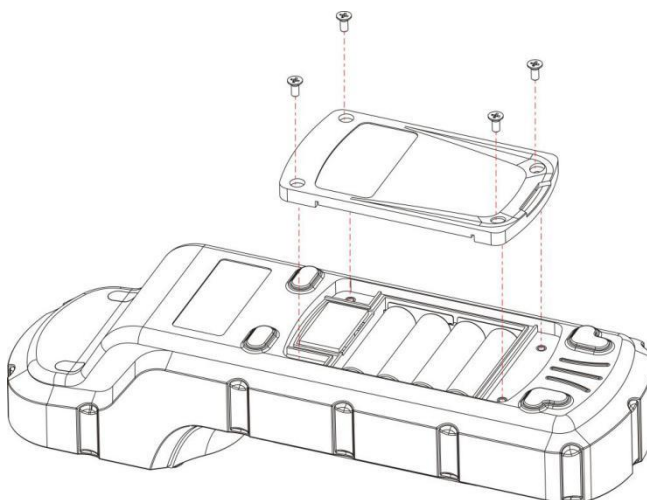

Figure 3 Replace Batteries
The SP-800 battery compartment, shown in Figure 3, is on the back side of the instrument. Insert a small pad underneath the screen area to make the back-surface level when the instrument is turned upside down. Install batteries as followings:
2. Insert four batteries into the battery holder as shown in Figure 3. Make sure the positive battery polarity marker (+) is aligned with the positive marker (+) on the battery holder.